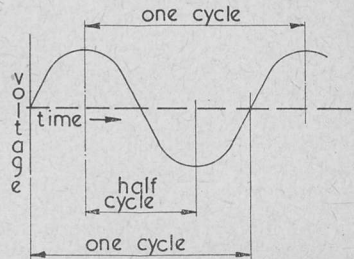

Fig. 4. The voltage/time curve for an alternating voltage. The usual time of one cycle for AC mains is 1/50th of a second.
Alternating current (AC) is unsuitable for supplying operating currents to radio valves, for the simple reason that in an alternating current, the direction of flow is changing several times a second. The voltage changes similarly, in what is known as a cycle. Fig. 4 shows how the voltage changes with the time, from positive to negative, and then back to positive.
In our previous investigations, we have seen that an alternating supply voltage varies from positive to zero, and then to negative every half cycle (see Fig. 4) in this way. If this source of supply was applied to our magnetising coil in the last example, the magnetic field would be constantly changing.